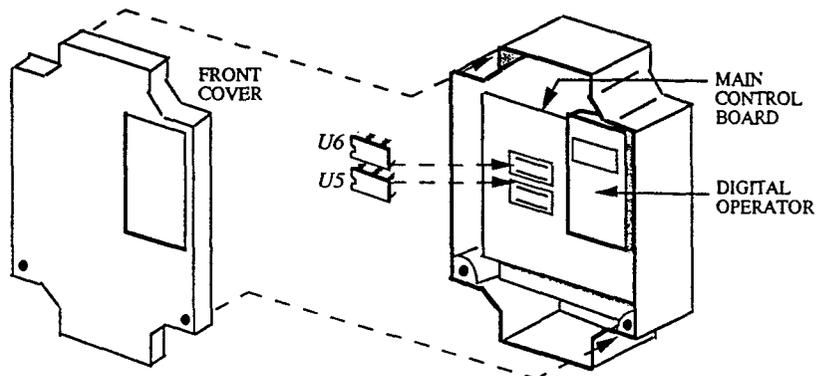

Figure 1. Installation of HVAC EPROM Set in GPD 503
4. The HVAC software kit contains two EPROMs. See Figure 1. Remove the standard EPROM set from your GPD 503 drive, and install the HVAC EPROM set as shown. Be sure to locate U5 and U6 in their proper place, with the notches facing left! Failure to do this will ruin the EPROMs.